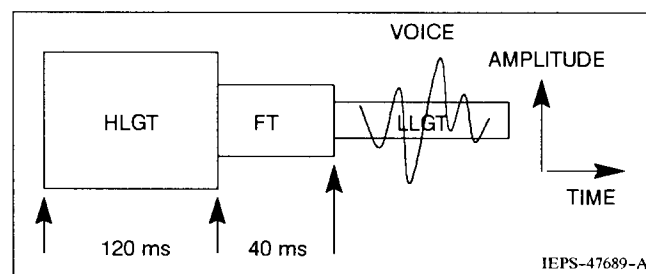

Figure 1. Remote Key-up
Figure 1 shows a typical tone remote control signaling format. HLGT is sent as a wake-up tone to the station. The level of this tone is approximately equal to the voice peak levels on the wireline. The HLGT is followed by a Function Tone (FT). FT contains the actual information for the station, as each different function tone corresponds to a different function performed by the station.